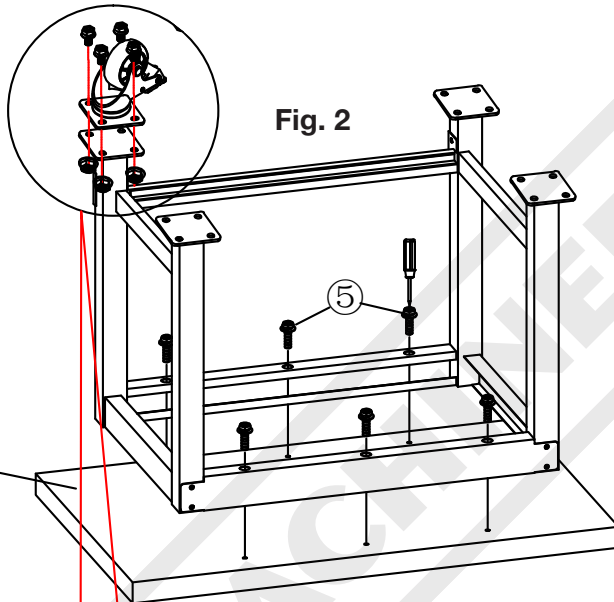

Fig. 2
**Step 3:** Place the top (1) upside down, then put the assembled bench frame on top (also upside down). As shown in (Fig.2).
**Step 4:** Align the assembled bench to the top (1) and connect with short screws (5). Ensure all parts are tightly fixed together. As shown in (Fig. 2).